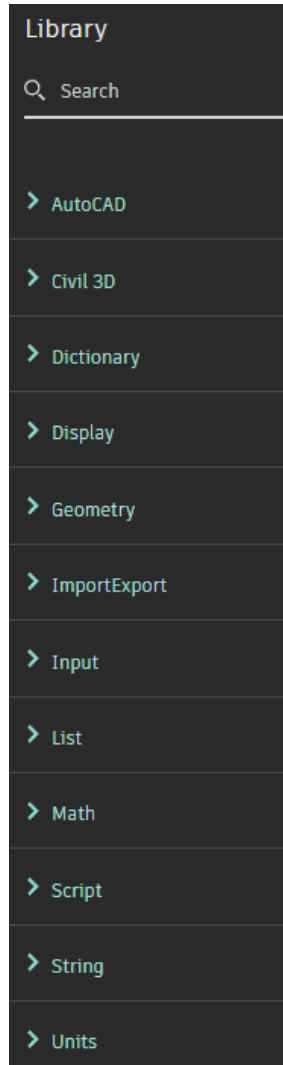

Figure 12.7 – Dynamo for Civil 3D Library
- Our **Library** section along the left side consists of out-of-the-box nodes that we'll use to define our scripts, as shown in *Figure 12.7*.